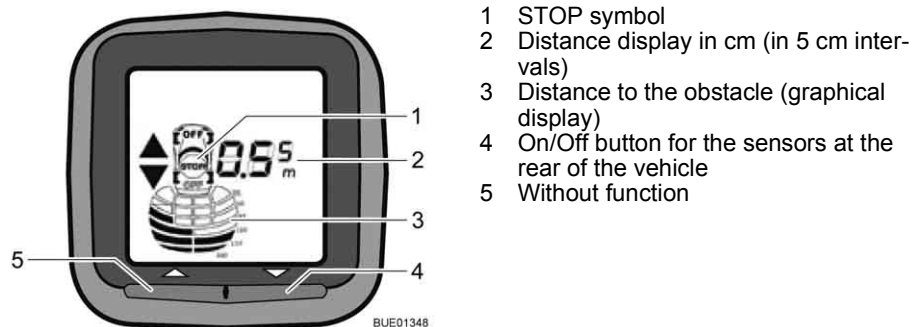

Fig. 8 Park Boy V display unit
In the passenger compartment, a display unit (Fig. 8) shows the distance to the obstacle. At the same time, an acute signal sounds as a warning.
- Press the On/Off button (Fig. 8,4). The display illuminates and the vehicle symbol appears in the display. The parking distance control is ready to measure.
- Press the On/Off button (Fig. 8,4). The parking distance control can be switched off at all times independent of the selected switch-on method using the On/Off key.
The distance between the vehicle and the obstacle is issued in three ways: The display (Fig. 8) shows the distance in steps of 5 cm. The shortest distance measured by a sensor is shown.